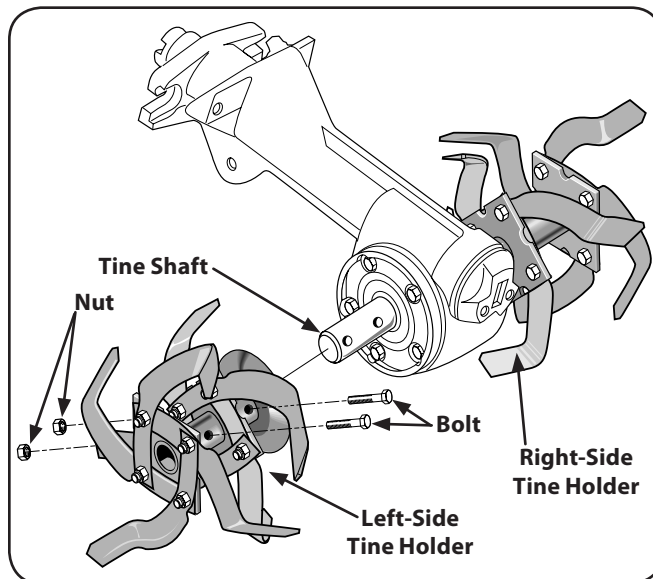

Figure 7-9
5. Use two $\frac{5}{16}$ " wrenches to remove the two bolts and nuts securing the tine to the tine holder plate. See Fig. 7-9. Use penetrating oil on the hardware if it is rusted or hard to remove.
3. Remove the two bolts and nuts securing each holder. See Fig. 7-9.